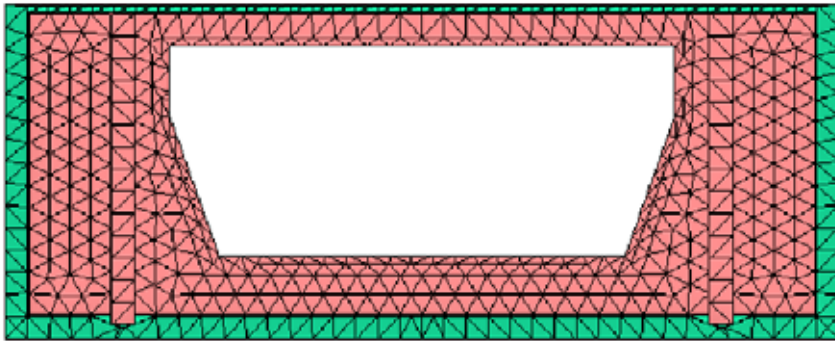

Figure 4: Elements inside rim band selected
-  When properly selected, most of the interior elements shown in Figure 4 will be selected and moved to the new **Rim** layer. These extra elements in the center of the part will be moved back to the **New Triangles** layer.
7. Click the **Select** tool  and create a bounding box to select all elements inside the rim, as indicated in Figure 4 below.